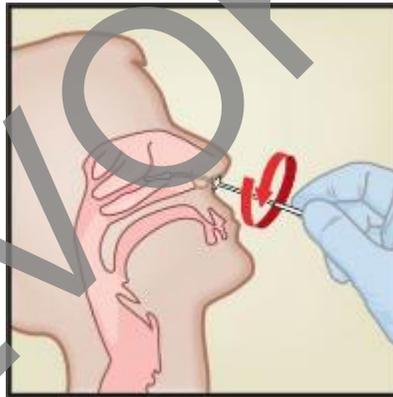

Figure 4. Mid-turbinate Swab Specimen Collection
1. Insert the mid-turbinate swab into either nostril, passing it into the mid-turbinate area (see Figure 4).